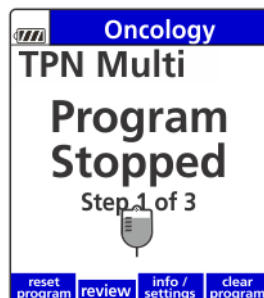

Figure 69. Multi-Step Stop Screen Showing reset program Soft Key.
8. The program will be retained indefinitely during power-off cycles until reset. To reset the program, press the **reset program** soft key from the program stopped screen. See Figure 69.